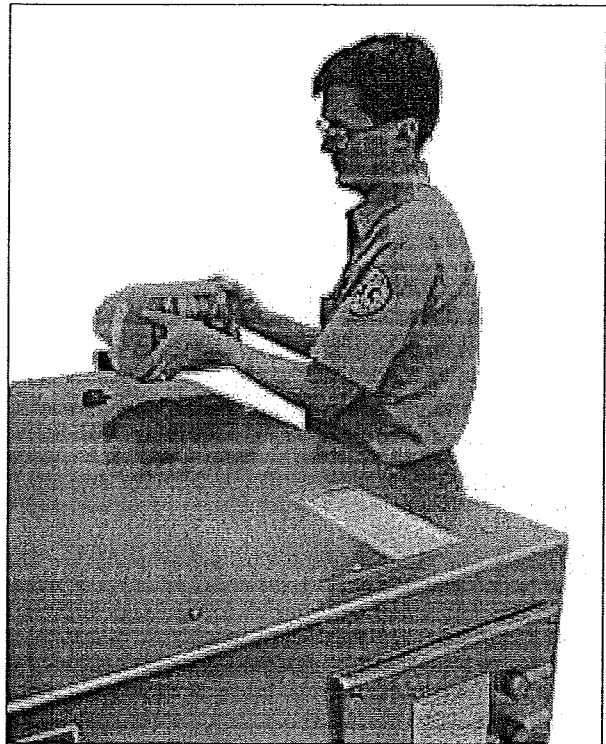

Figure 4 - Filling the Disinfectant Reservoir
2. Fill the reservoir with a disinfectant approved by your local city, county, or state government for disposal in sanitary drains (Figure 4).